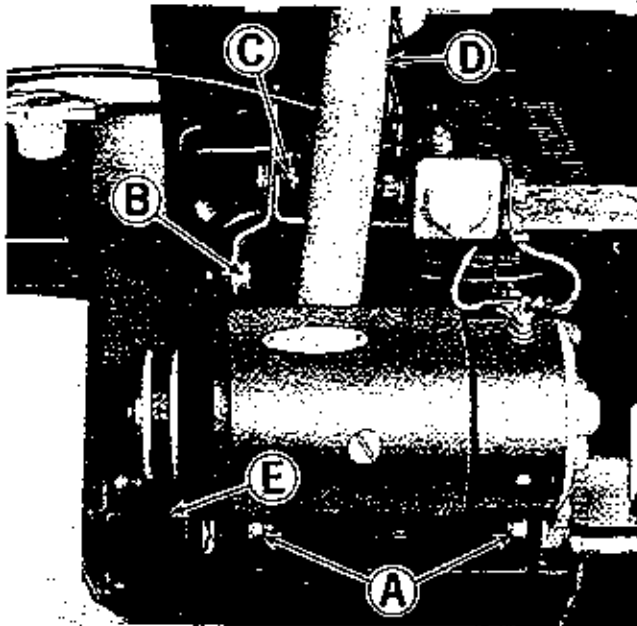

Figure 17. Generator located on right side of engine.
See figure 17. If the starter turns, but the engine does not rotate, the starter generator belt may need tightening. Proceed as follows:
2. See figure 17. Loosen slightly the two nuts (A) cap screw (B) and nut (C). Use a pry bar (D) similar to the one shown between the generator and engine block to apply pressure to the generator and tighten the belt. The belt should be tight enough so thumb pressure at (E) will deflect it about 1/4".
3. While holding the pry bar to maintain tension on the belt, tighten the mounting bracket at (C) securely.
4. Actuate the starter to make sure the engine will rotate. If it does not, loosen the nut at (C) and apply more tension to the belt.
5. Tighten the two nuts at (A) and the cap screw (B) securely.